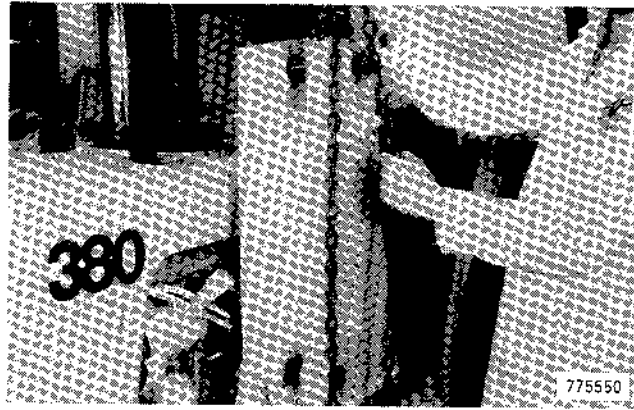

Figure 25
- 30. Remove the loader upright, Figure 25.